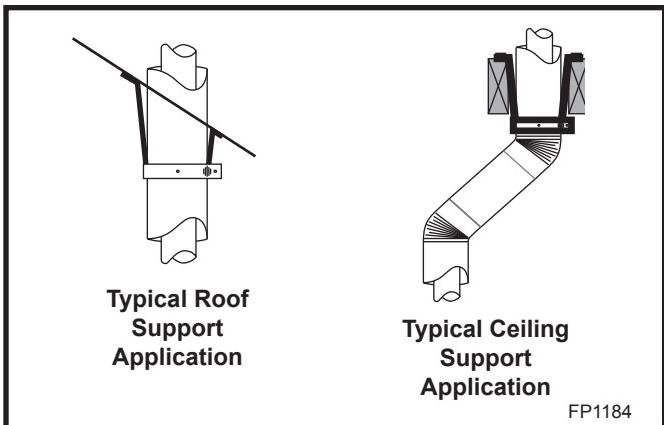
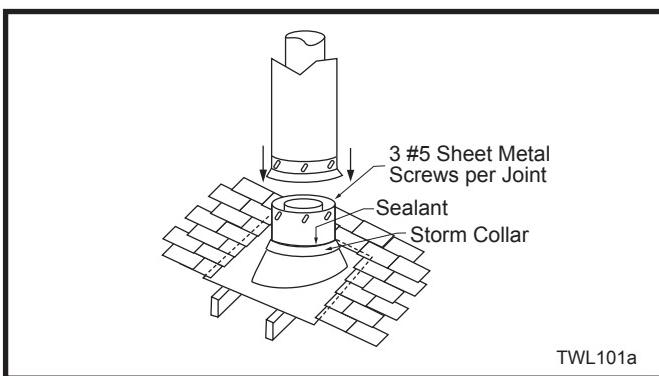

Fig. 44 Venting supports.
Fig. 46 Roof flashing.
- 7DVC supports offsets. (Fig. 44) This application will require that you first determine the roof pitch and use the appropriate starter kit. (Refer to Venting Components List)
7. Install roof support (Fig. 44) and roof flashing making sure upper flange is below the shingles. (Fig. 46)
8. Install appropriate pipe sections until the venting is above the flashing. (Fig. 46)